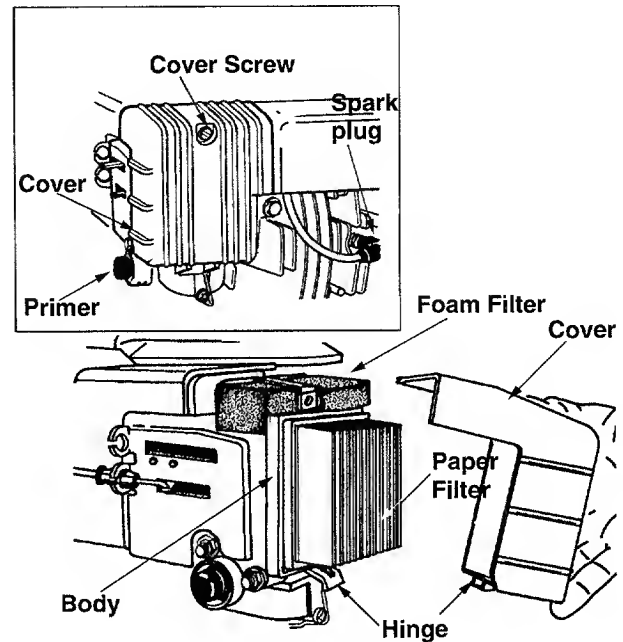

Figure 10
- Remove cover screw and cover; do not remove screw from cover. See Figure 10 inset.
- Swing cover down to remove from hinge. See Figure 10.